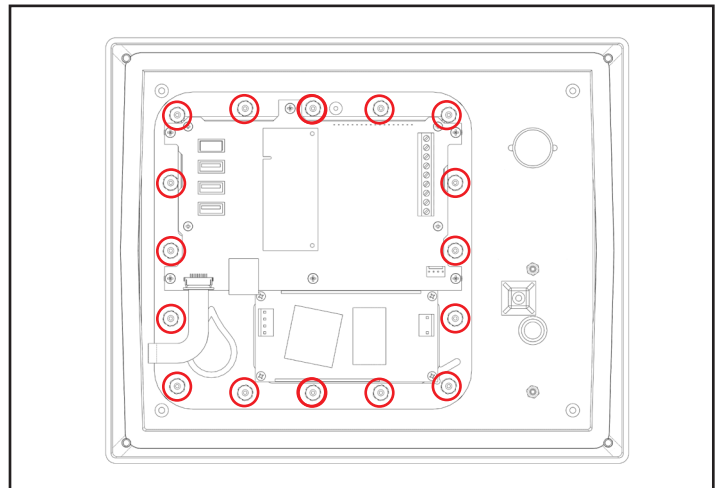

Figure 31.2: Keypad backplate nut locations
4. Using a 5/16" deep-well socket or wrench, remove all 16 nuts around the keypad backplate [Figure 31.2 - 31.3].